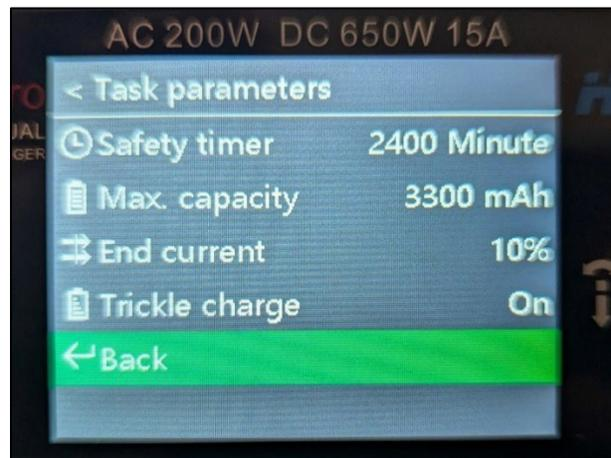

Figure 144 Task parameters configured
2. Navigate to **Task Parameters** and set the **Max. capacity** to the capacity of the battery as shown in **Figure 144**.